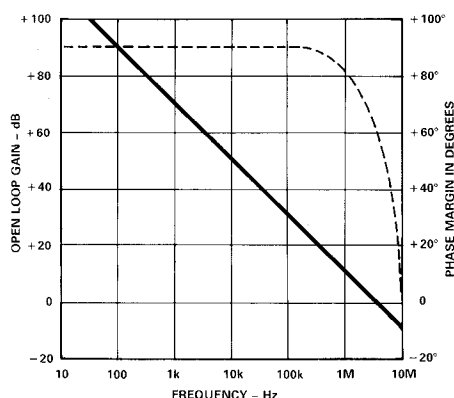

Figure 18. Open Loop Gain and Phase vs. Frequency for the Uncommitted Input Op Amp
**Compensating the Uncommitted Input Op Amp.** The open loop gain and phase versus frequency for the uncommitted input op amp are given in Figure 18. These curves are to be used to determine the appropriate values for the feedback resistor and compensation capacitor in order to ensure frequency stability when a gain greater than unity is required. The final values for these components should also be chosen so as to satisfy the following constraints: